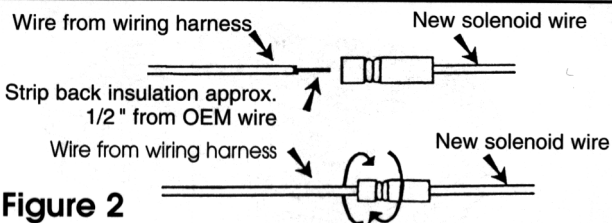

Figure 2
7. Strip back lead wires cut from the old solenoid and original solenoid harness approximately 1/2" and twist braided wire to form a tight strand. Loosen the Posi-Lock™ Connectors. Insert the bare wire into the connector until it bottoms out. Tighten the connector. Repeat this procedure for all of the connections (**Figure 2**).